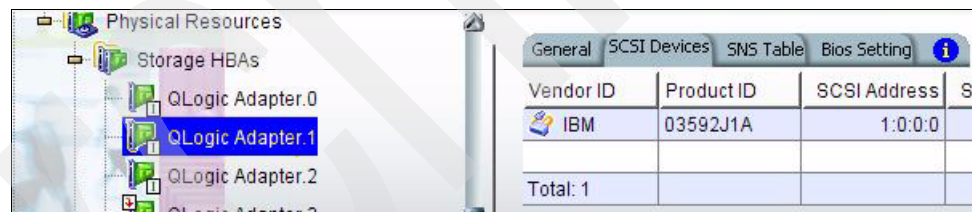

Figure 7-41 Verify that discovered devices are connected to the proper HBA
6. Verify that the tape devices have been discovered successfully (Figure 7-41).